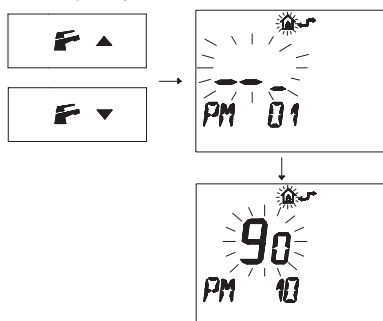

Fig. 7.42
- Press buttons **F** and **▲** or **F** and **▼** to display the "PM10" program for selecting the ignition frequency (Fig. 7.42).
In Fig. 7.42 a SET programmed at **90** is displayed corresponding to a re-ignition time of about 3 minutes.